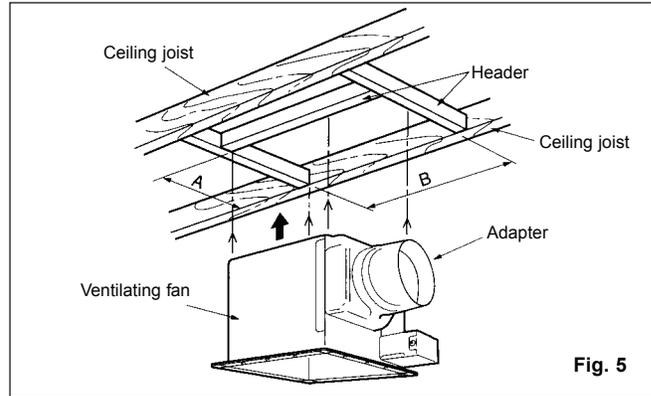

Fig. 5
1. Install header between ceiling joists using nails or screws. (Fig. 5)
2. Install the ventilating fan to the header with long screws. (Figs. 5 & 6)